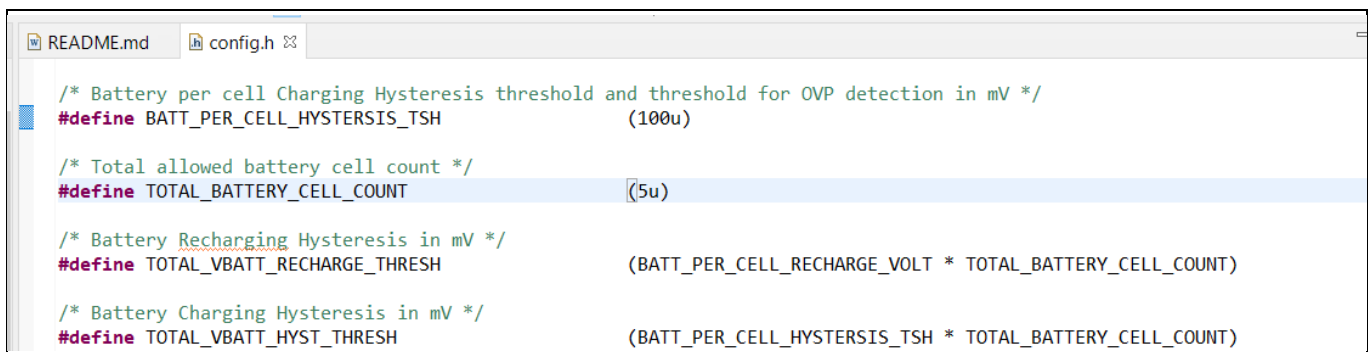

Figure 21 Firmware modification for modifying cell count
- Update the TOTAL_BATTERY_CELL_COUNT macro value from 5 to 3 in *config.h* file, as shown in Figure 21.